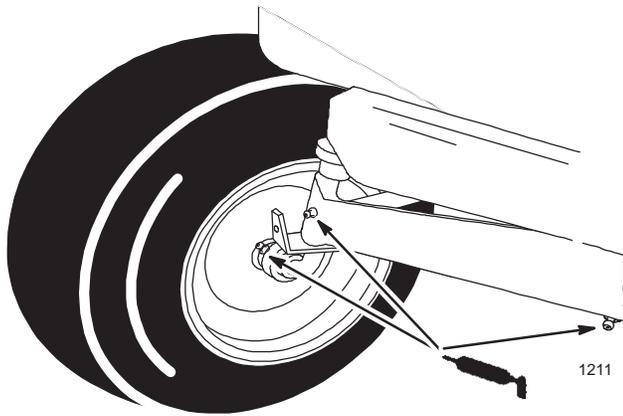

Figure 27
1. Lubricate the front wheels and spindles until grease begins to ooze out of the bearings (Fig. 27).
2. Lubricate the front axle pivot (Fig. 27).